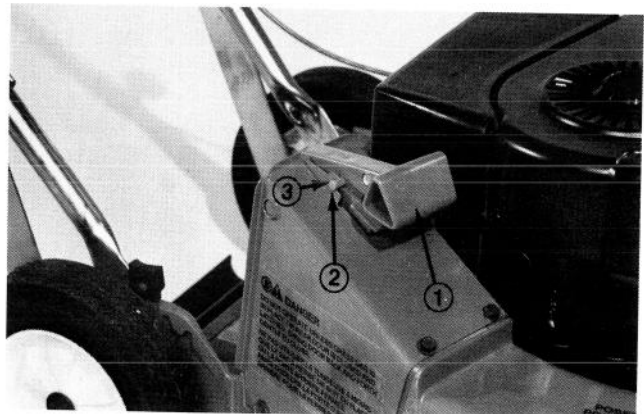

Figure 18
2. Assure mulcher door handle is fully forward and latch pin is released into latch (Fig. 18). The mulching door is now closed.